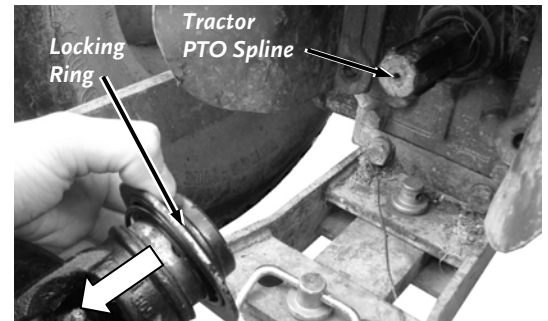

Figure 22
4. Pull the Locking Ring while sliding the PTO shaft onto the Tractor PTO Spline (**Figure 22**).